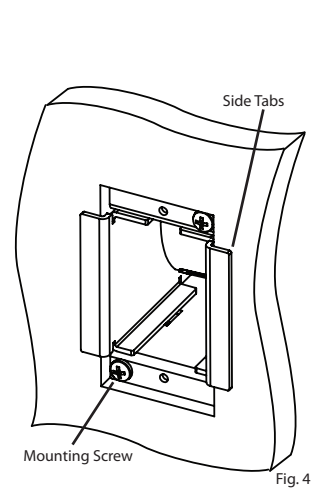

Fig. 4
14. While keeping the **Side Tabs** pressed against the mounting surface, secure the **Minibox** to the mounting surface by tightening the two **Mounting Screws** (Fig. 4).